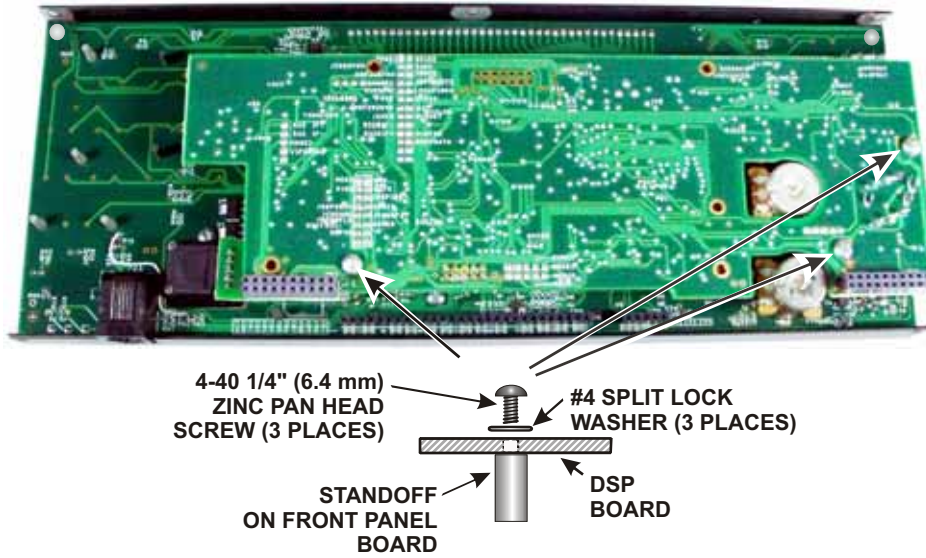

Figure 47. Mounting the DSP Board.
□ Mount the DSP board on the front panel board as follows. When you are done, the front panel assembly will look like Figure 47.
- Secure the DSP board to the front panel board with three 4-40 1/4" (6.2 mm) zinc pan head screws and split lock washers as shown in Figure 47.